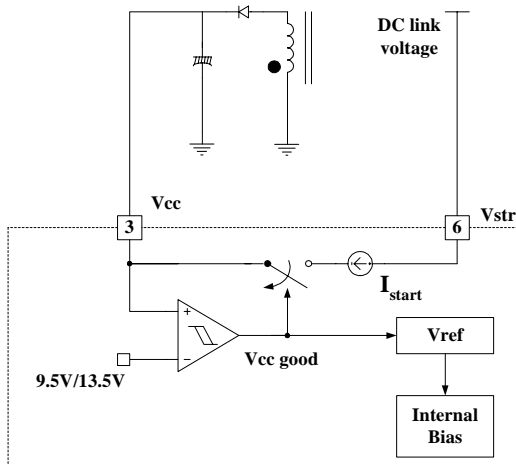

Figure 4. Internal startup circuit
1. Startup : At startup, an internal high voltage current source supplies the internal bias and charges the external capacitor that is connected to the Vcc pin as illustrated in figure 4. When Vcc reaches 13.5 V, the FPS begins switching operation and the internal high voltage current source is disabled. Then, the FPS continues its normal switching operation unless Vcc goes below the stop voltage of 9.5 V and the power is supplied from the auxiliary transformer winding. Once the auxiliary power starts up, the main power starts up with a time delay of 30ms.